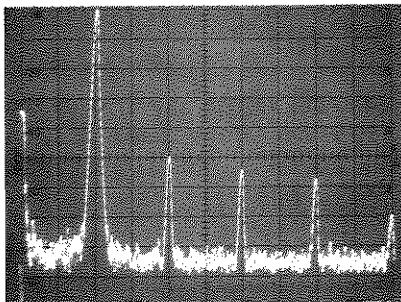

Figure 5-5. Sine Distortion Adjustment: 9.999 kHz
9.3 Adjust A17R340/A16R350 for minimum harmonic (Figure 5-5). Verify that these levels are 42 dB below fundamental or lower.